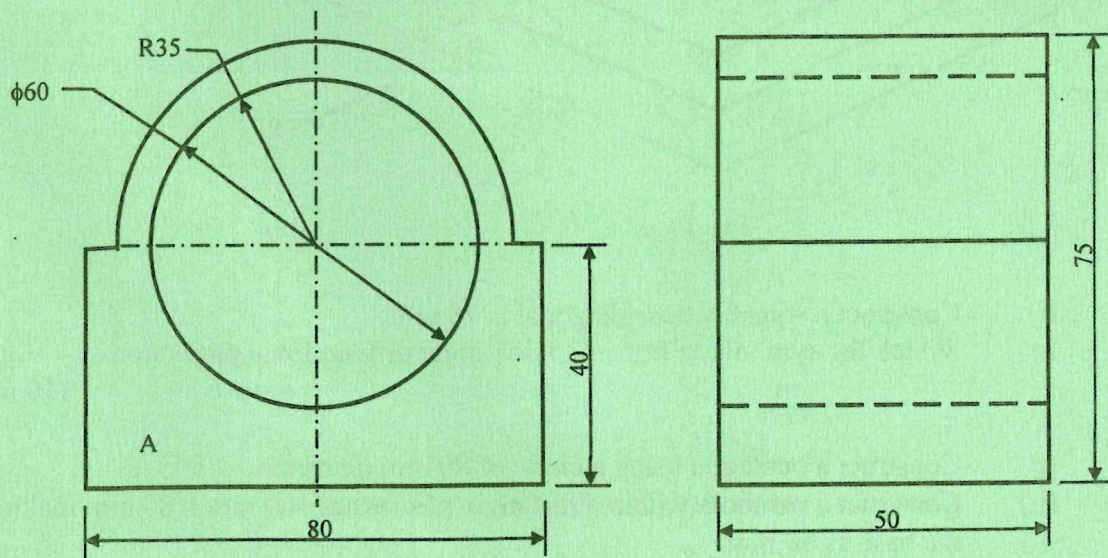

Fig. 1
5. Figure 1 shows front and end elevation of a clock case. Draw an oblique view of the clock with face A as the front side. Include at least **six** dimensions. (20 marks)